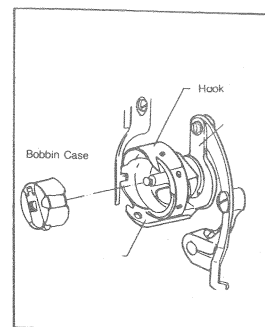

Fig. 8
a) Apply oil, with the filling tube two or three times on the moving parts of the Movable Knife Holder, and on the inside of the Hook, with the Bobbin Case removed. (See Fig. 8)